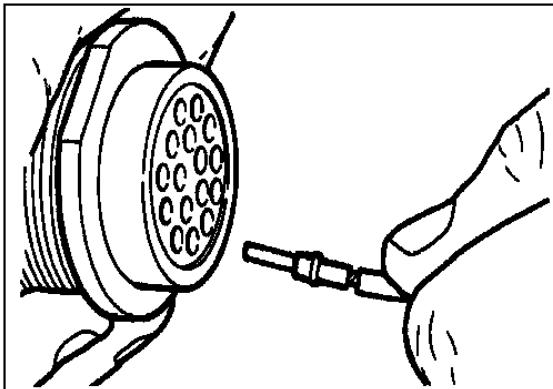

Figure 30 Hold Connector With Grommet Facing Contact
2. Hold the connector with the grommet facing the contact (Figure 30).